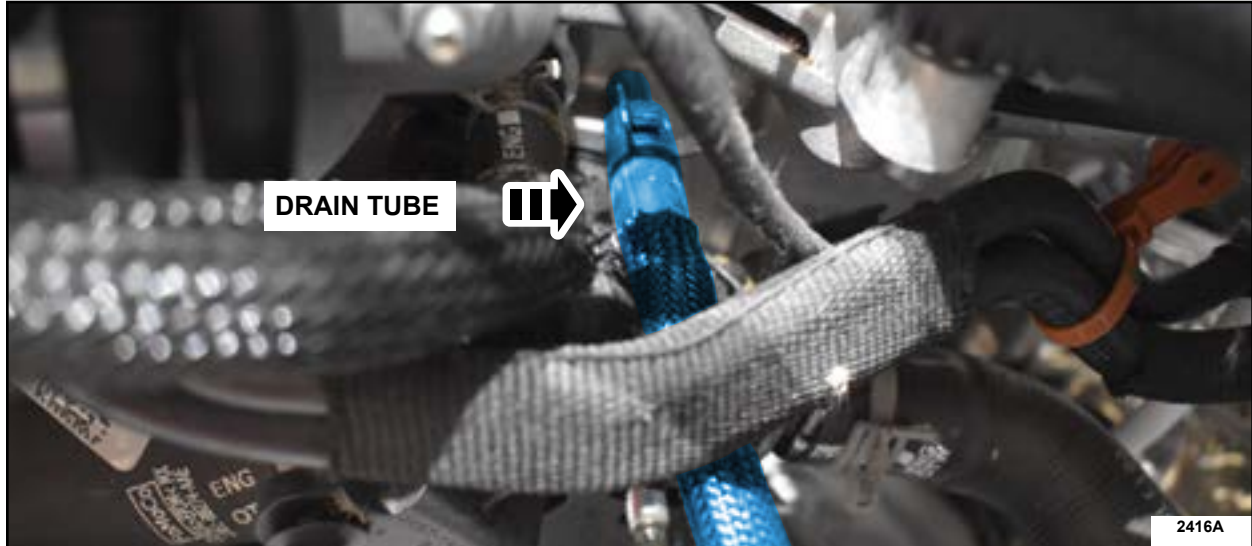

FIGURE 1
13. Is there a drain tube present? See Figure 1.